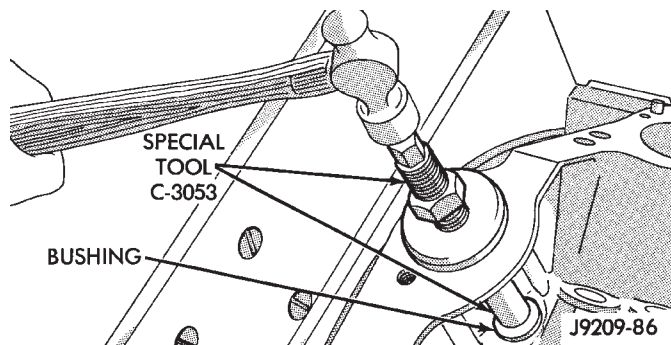

Fig. 39 Distributor Driveshaft Bushing Installation
(1) Slide new bushing over burnishing end of Distributor Drive Shaft Bushing Driver/Burnisher Tool C-3053. Insert the tool and bushing into the bore.
(2) Drive bushing and tool into position, using a hammer (Fig. 39).